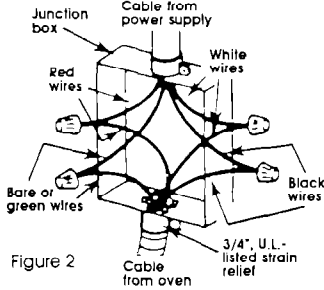

Figure 2
3. Connect the two black wires; then connect the two red wires. (See Figure 2.)